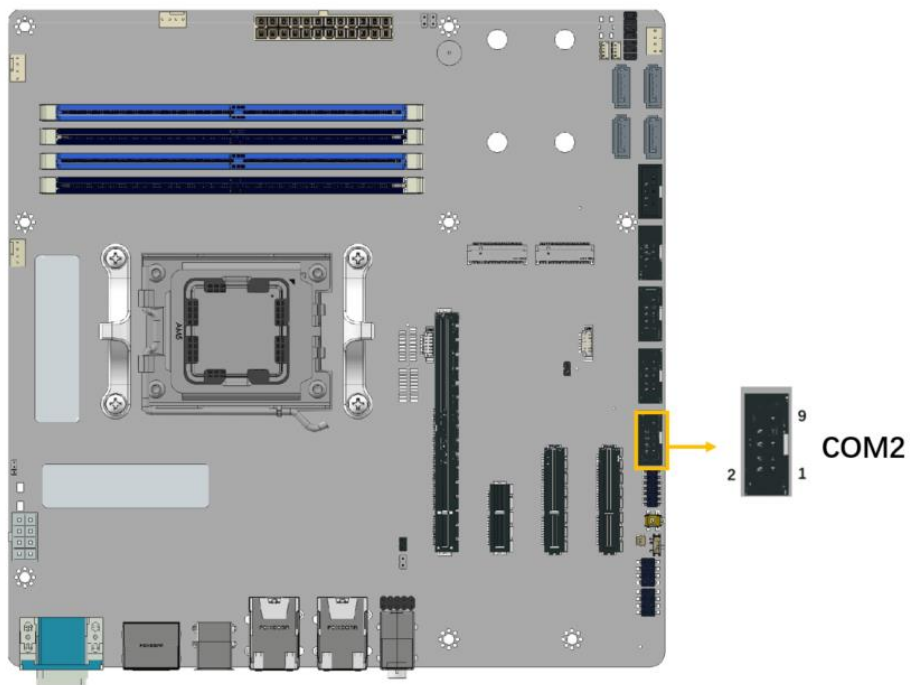

Figure 4-28: RS-232/422/485 Connector Location
- CN Location:** See **Figure 4-28**